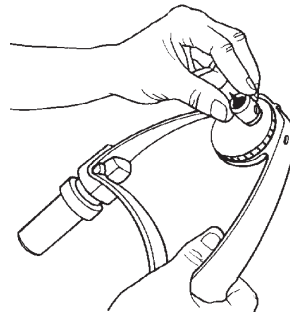

Figure B-115
61. Mount the cup center into the tailstock's adjustable center, as seen in Figure B-115, then mount the tailstock into the base mount (right side). Tighten the mount lock.